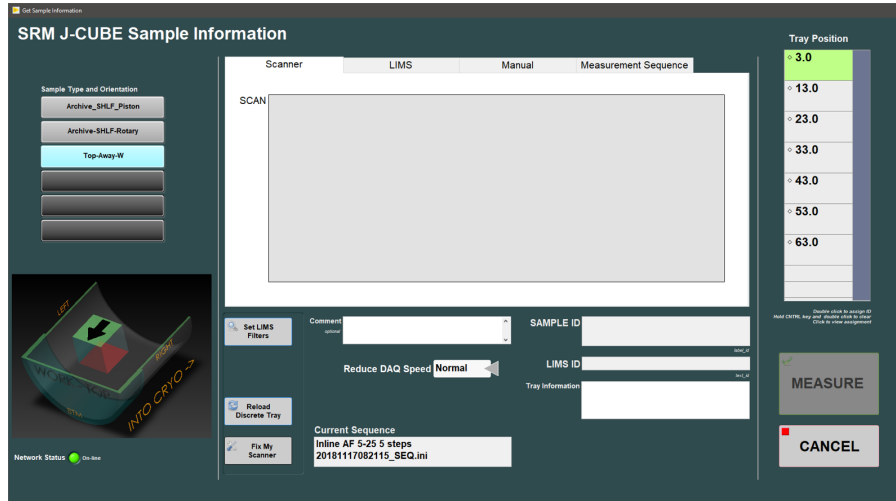

Figure 24- Sample Information Window: Discrete Scanner Entry
- **Scanner** mode: Place cursor in the scan box and scan the discrete cube label (Figure 24). The sample will be immediately assigned to the tray position highlighted on the right side of the screen.